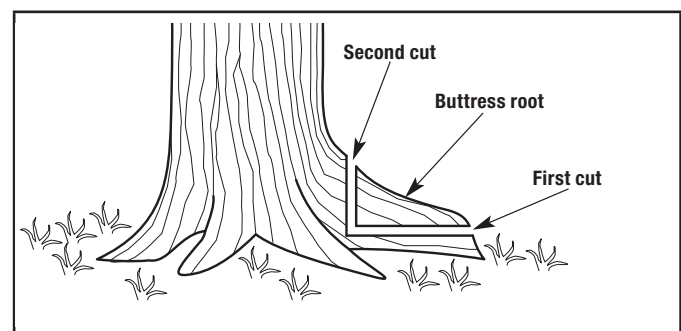

Figure 10
1. Make a horizontal cut into the buttress root (Fig. 10). To prevent the guide bar from being pinched by the weight of the wood, always make this cut first.
2. Make a vertical cut into the buttress root (Fig. 10).